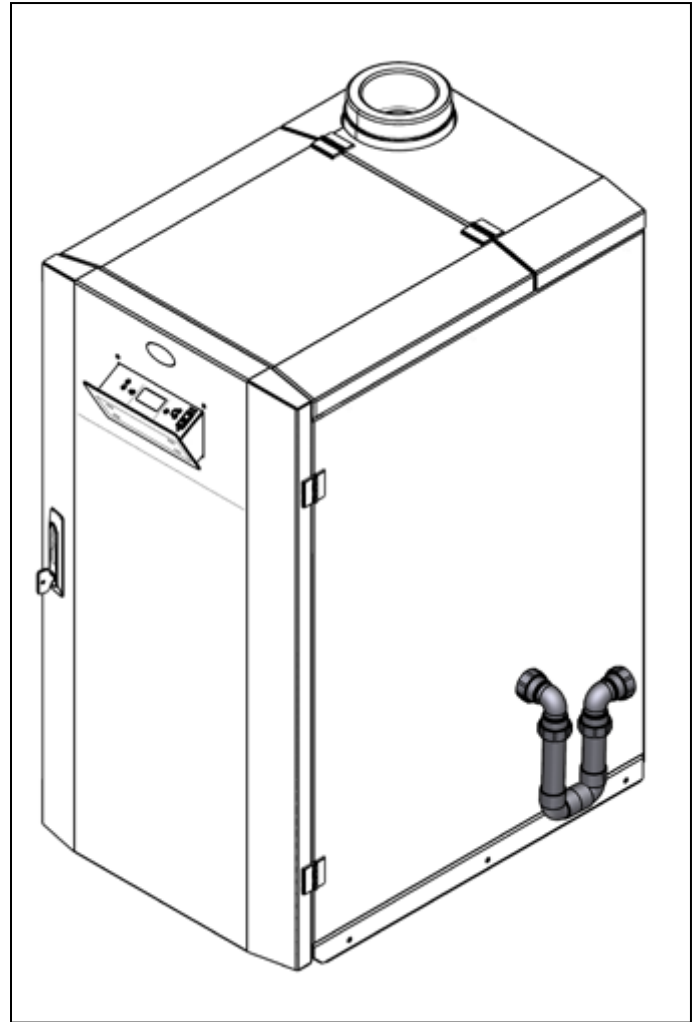

Figure 5-4: Condensate trap fitted on right side of boiler
- Fit the inlet of the condensate trap (supplied with the boiler) on to the end of the waste pipe and tighten fully. Refer to Figure 5-4.